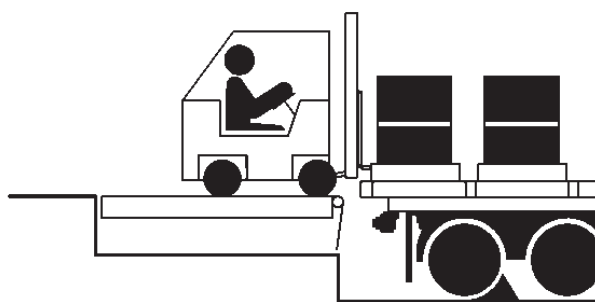

Figure 20
4. If transport vehicle bed is at or above dock floor level, leave leveler at the cross-traffic position and proceed with loading or unloading (see Figure 20). If transport vehicle bed is below the dock floor level, continue with Step 5.